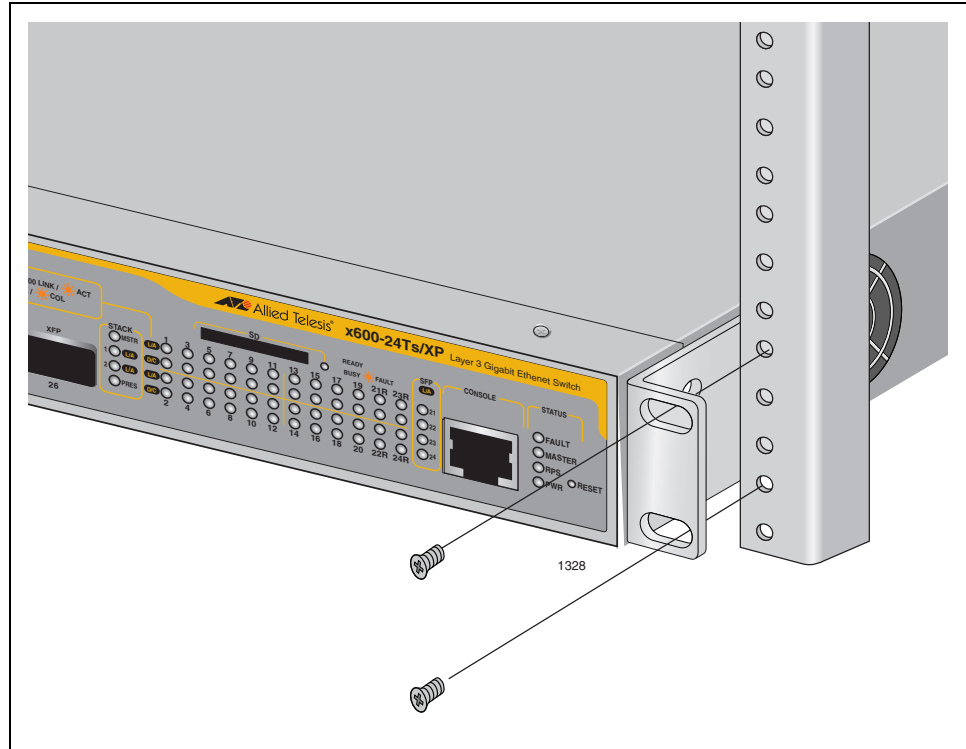

Figure 33. Mounting the Switch in a Rack
6. Mount the switch in a 19-inch rack using standard screws (not provided), as shown in Figure 33.